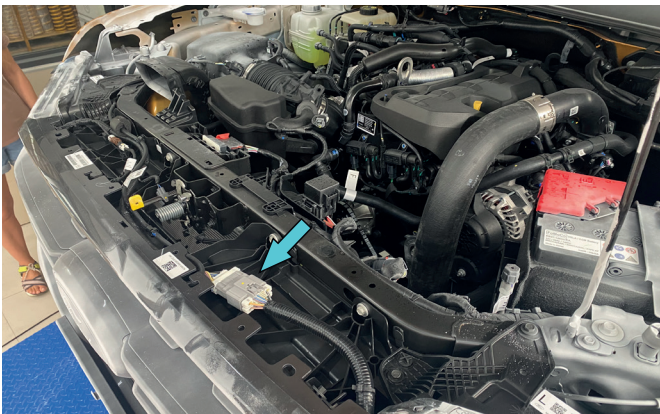

Fig.67
66. Connect OE wirings back (fig.67).